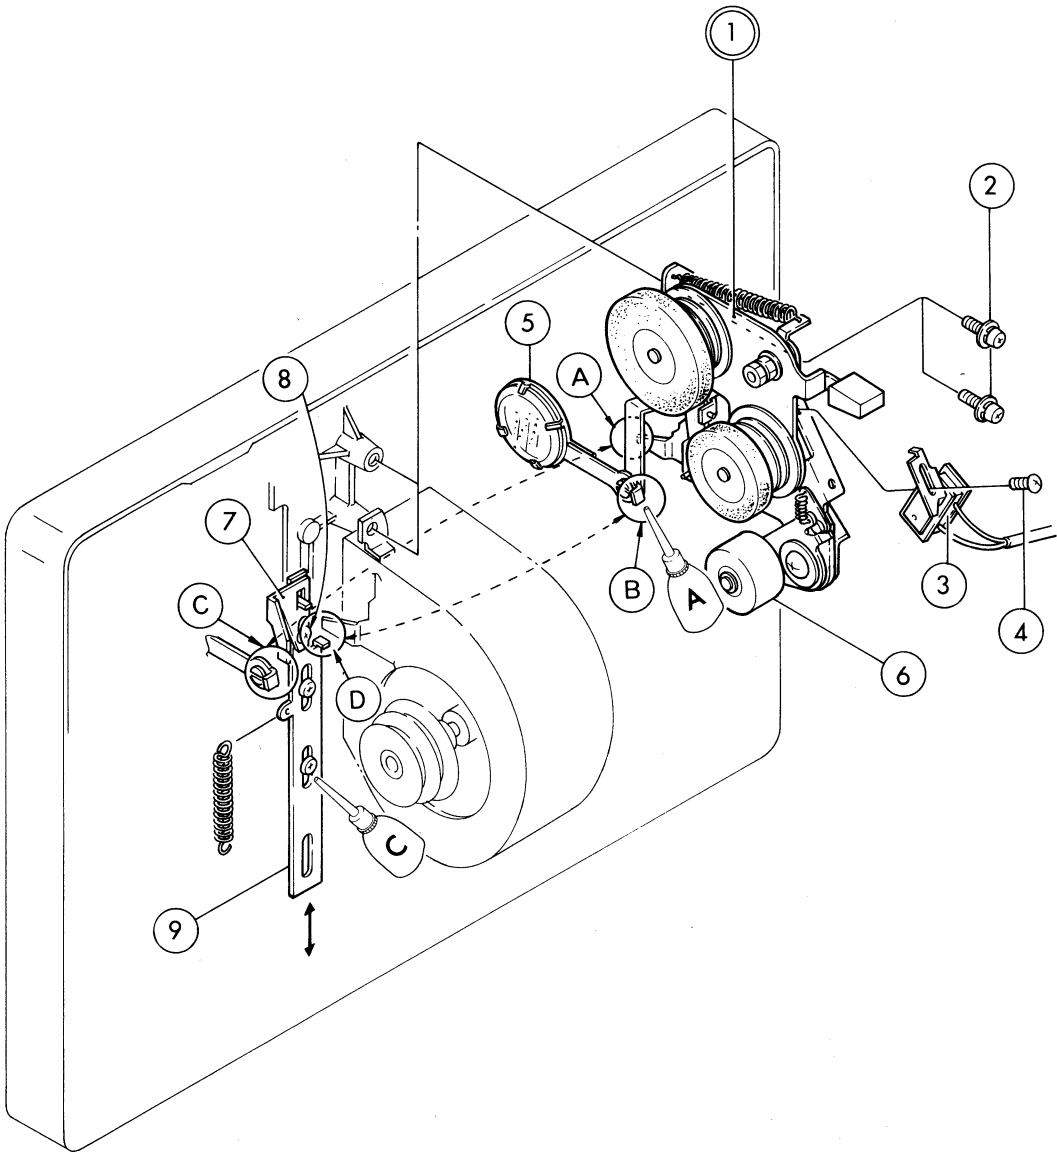

Fig 26
A. Disassembly Refer to Fig.26.
2. Remove (4) and take out (3).
3. Remove (2)x2 and take out ((1)).
- No interlock at points (A)(B); Unable to make 1 fps projection
- Faulty adjustment at points (B)(C) —
- (5) won't move up; Dim screen